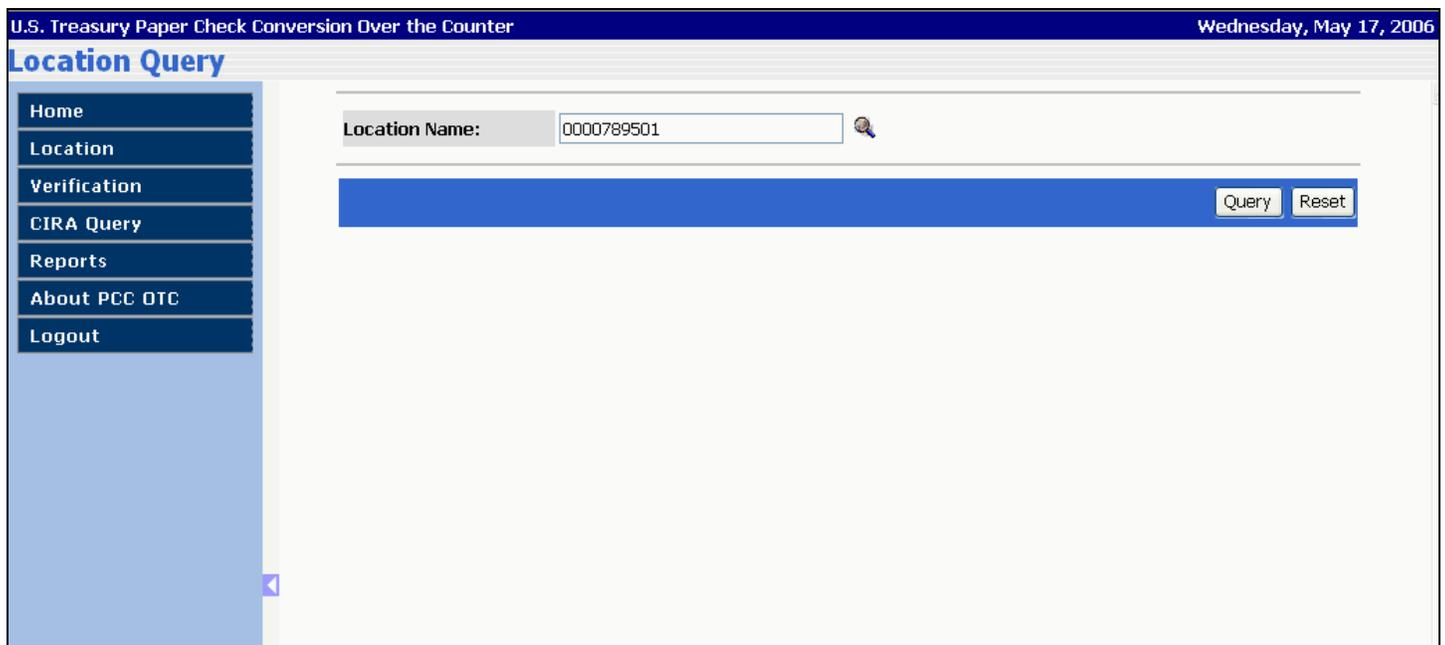

Figure 5.19
1. Click **'Location'** from the Main Menu. The following Screen will appear (Figure 5.19):